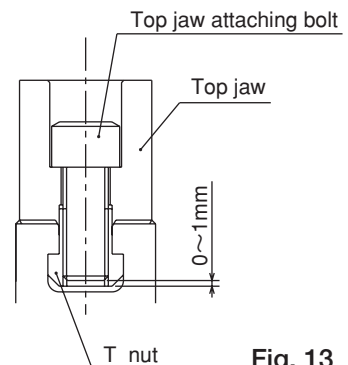

Fig. 13
- If the screw-in depth of the jaw attaching bolt to the T nut is shallow, the T nut will break, and this is dangerous as the jaw and work will fly out. If the attaching bolt is too long and comes out from the bottom of the T nut as well, this is dangerous as the jaw and work will fly out since the top jaw is not fixed. Therefore, the overall length of the jaw attaching bolt must be approximately 0 to -1mm from the bottom of the T nut (Refer to Fig.13).